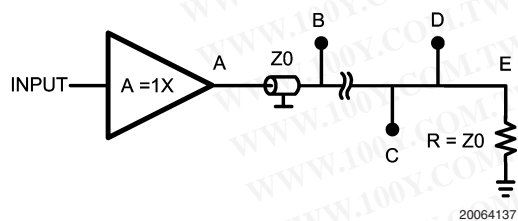

FIGURE 2.
- Use one buffer to drive to multiple points on one transmission line (see Figure 2)
Another transmission line possibility is to route the trace via several points along a transmission line (*Figure 2*) This is only possible if care is taken to observe certain restrictions. Failure to do so will result in impedance discontinuities that will cause distortion of the signal. In the configuration of *Figure 2* there is a transmission line connected to the buffer output and the end of the line is terminated with Z_0 . We have seen in the section 'Connecting a load using a transmission line' that for the condition above, the signal throughout the entire transmission line has the same value, that the value is the nominal value initiated by the opamp output, and no reflections occur at the end point. Because of the lack of reflections no interferences will occur. Consequently the signal has every where on the line the same amplitude. This allows the possibility of feeding this signal to the input port of any device which has high ohmic impedance and low input capacitance. In doing so keep in mind that the transient arrives at different times at the connected points in the transmission line. The speed of light in vacuum, which is about 3×10^8 m/sec, reduces through a transmission line or a cable down to a value of about 2×10^8 m/sec. The distance the signal will travel in 1ns is calculated by solving the following formula: